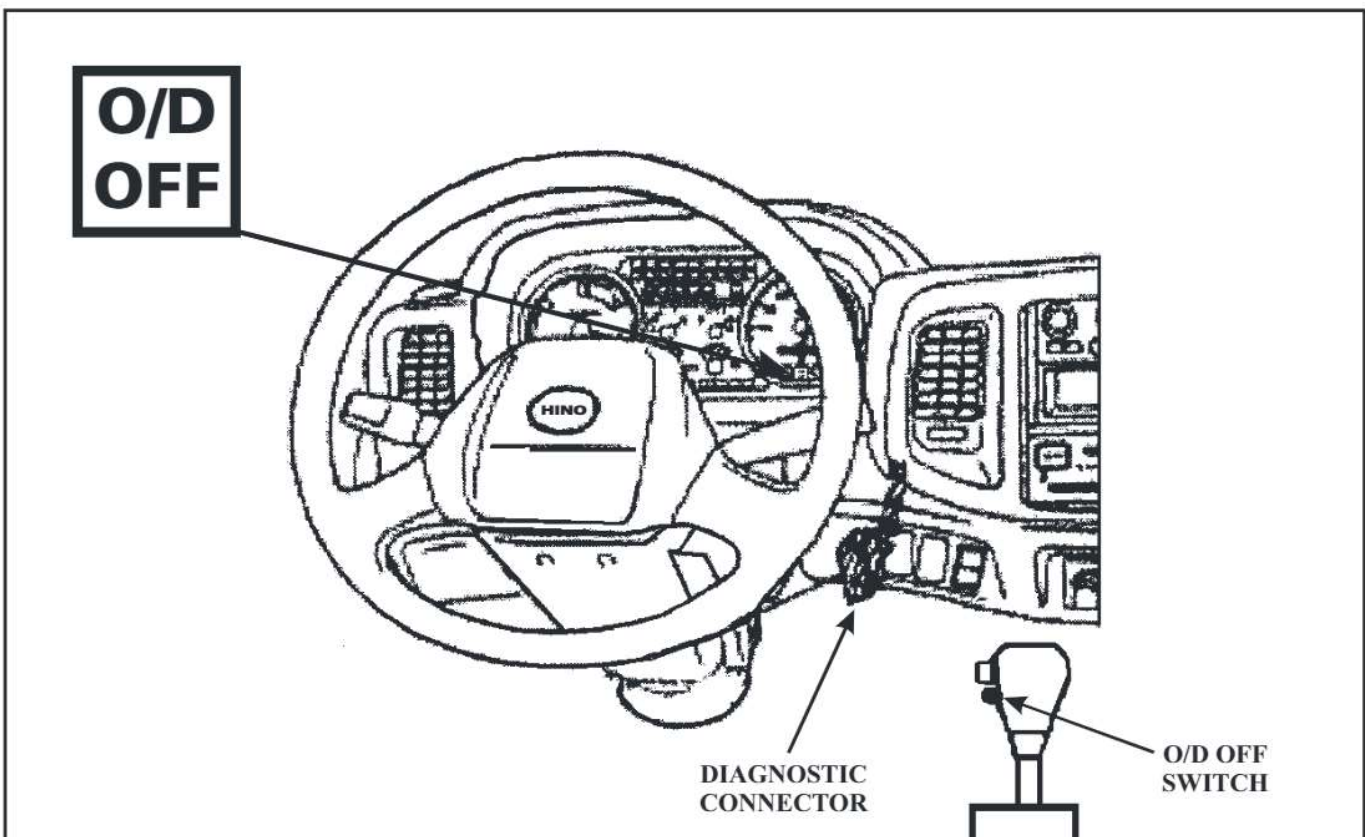

Figure 73
The location of the Diagnostic Connector can be seen in Figure 73.
- 3 - Read the diagnostic flash pattern displayed by the Overdrive OFF Lamp located in the instrument cluster as seen in Figure 73.
OBD-II Diagnostic Codes can be retrieved with a capable scan tool using the Diagnostic Connector shown in Figure 73.